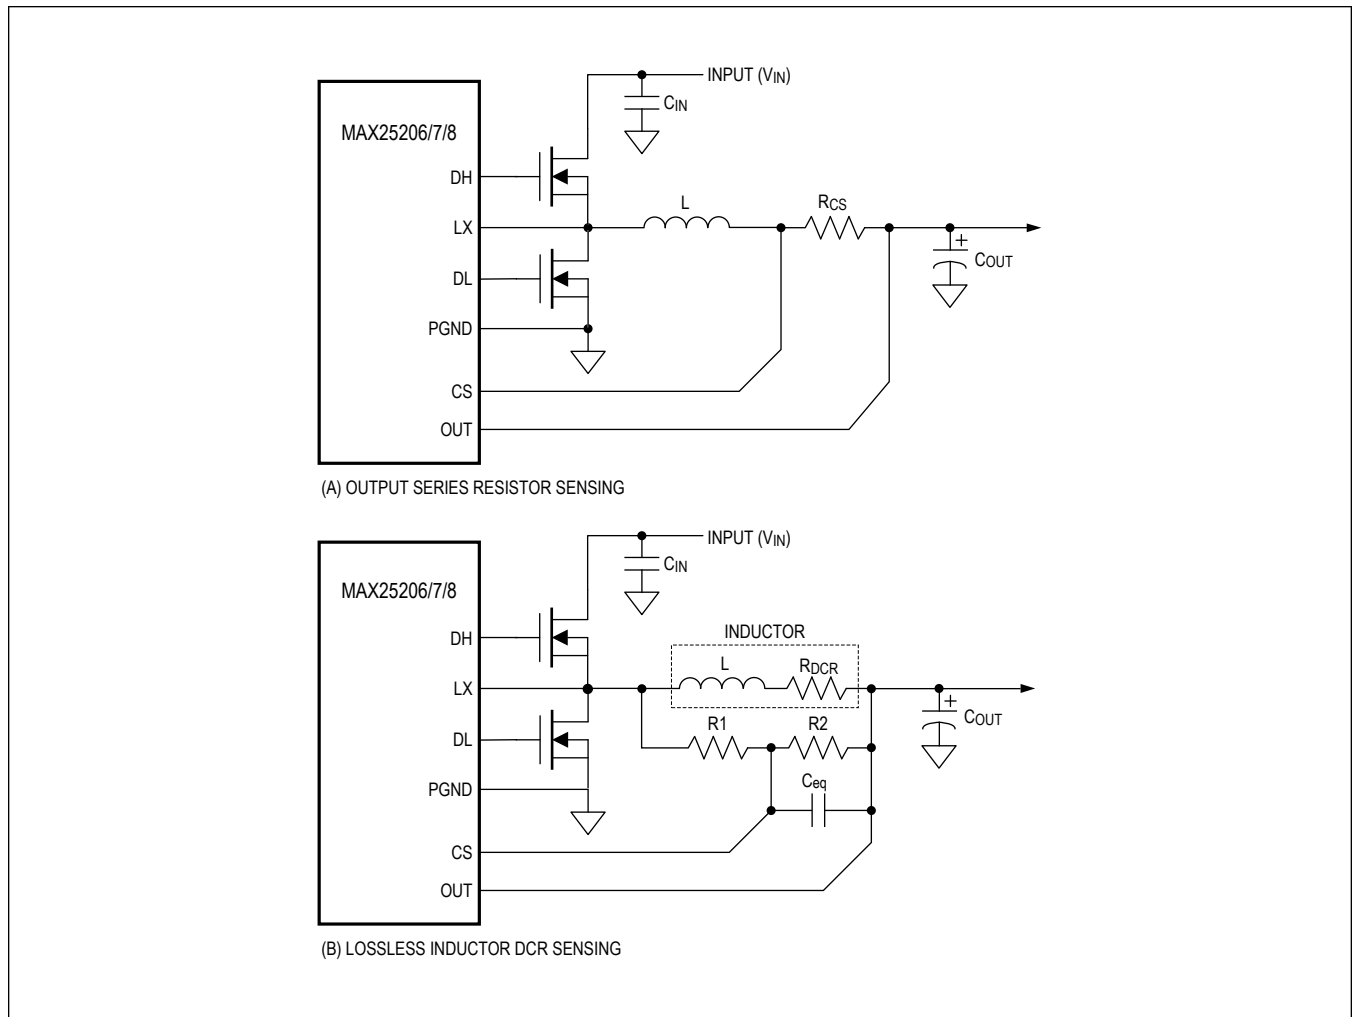

Figure 2. Current-Sense Configurations
For best current-sense accuracy and overcurrent protection, use a $\pm 1\%$ tolerance current-sense resistor between the inductor and output, as shown in Figure 2 (A). This configuration continuously monitors inductor current, allowing accurate current-limit protection. Use low-inductance current-sense resistors for accurate measurement.
Alternatively, high-power applications can reduce the overall power dissipation by connecting a DCR sensing network across the inductor Figure 2 (B). Select DCR network based on the following equations:
where R_{CSHL} is the required current-sense resistor based on the current-limit threshold (V_{LIMIT}) and R_{DCR} is the inductor DC resistance. If DCR sense is the preferred current-sense method, select $R_1 \leq 1\text{k}\Omega$. See Figure 2 (B).